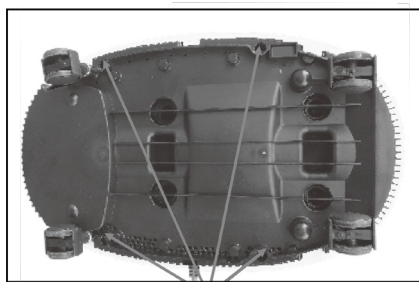

Figure 11
- ▶ Lie down the unit, unscrew the screws in the base. (Figure 11)